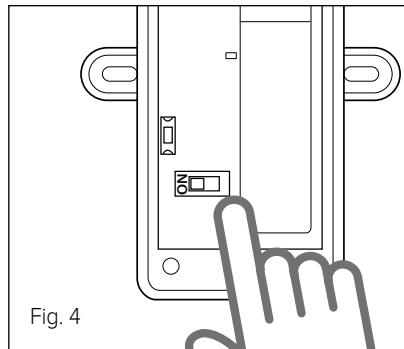

Fig. 4
- Set the dip switch on the external sensor's pcb to **ON** (Fig. 4).